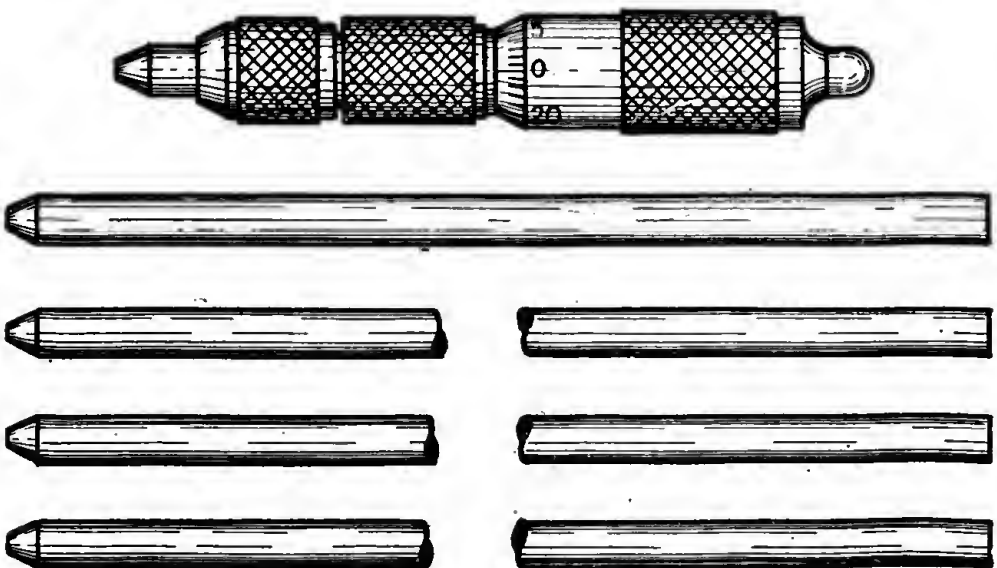

Figure 71. Inside micrometer and extra extension bars.
d. SIZE. The range of a micrometer is usually 1 inch. The size of a micrometer is given as the largest dimension it will measure. Therefore, a micrometer which will measure from 0 up to 1 inch is called a 1-inch micrometer. A 2-inch micrometer will measure from 1 to 2 inches. A 20-inch micrometer will measure from 19 to 20 inches. An outside micrometer has the mechanism fastened to the frame and therefore is of a definite size. The inside micrometer has a series of bars which will fit into the mechanism. By choosing a bar of the proper length and inserting it into the mechanism, a micrometer of any size can be made. (See fig. 71.) A depth micrometer also has extension bars.
e. READING MICROMETER. (1) Reading a micrometer correctly is difficult. The student mechanic should practice using one until he becomes